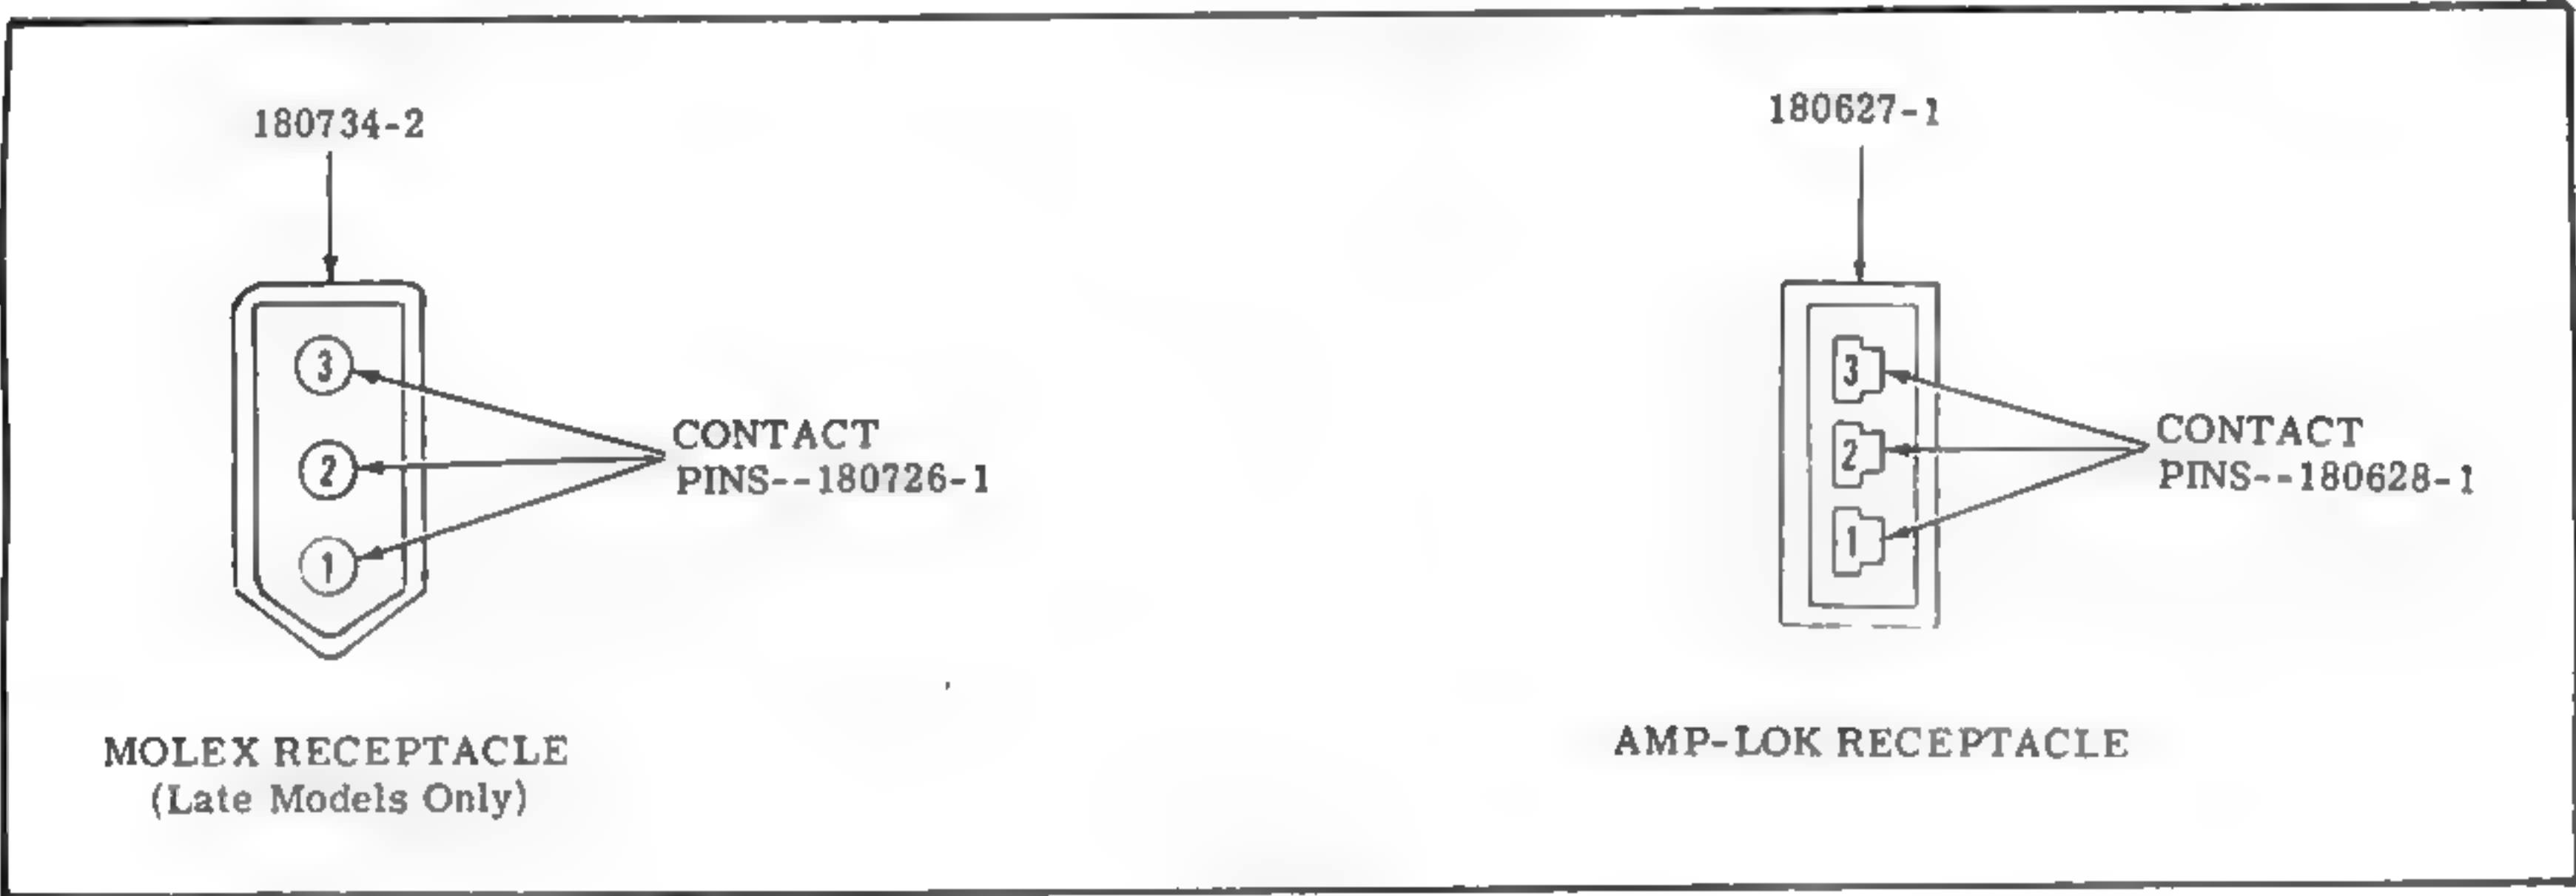

Figure 10
A new type Mute Switch Assembly was incorporated in late production and this new assembly (76130128) is illustrated in Figure 10. In this new Muting Switch the Actuating Lever (141) fits into a slot in the Tone Arm Elevating Lever (118) rather than under the lever as in the earlier version. Also, an Actuating Lever Spring (76201010) is incorporated, as shown in the illustration, to insure positive action.